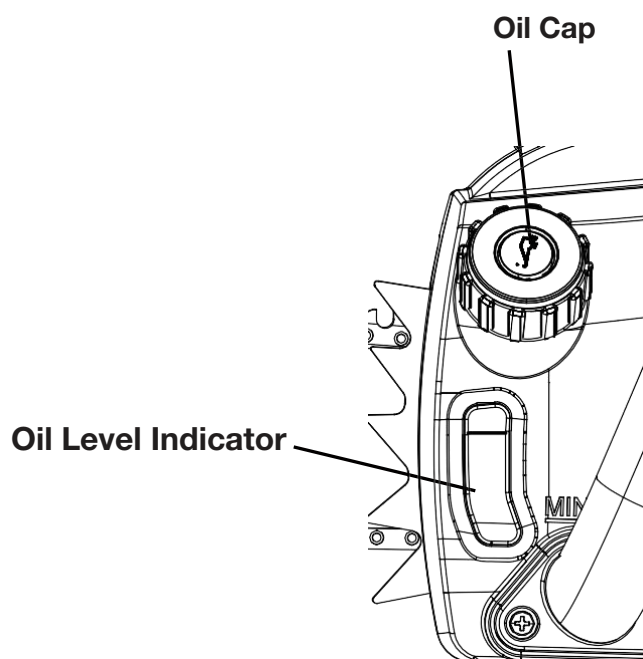

Fig. 6
1. Remove the oil cap (Fig.6). Fill the reservoir with bar and chain oil until the oil level has reached full capacity.